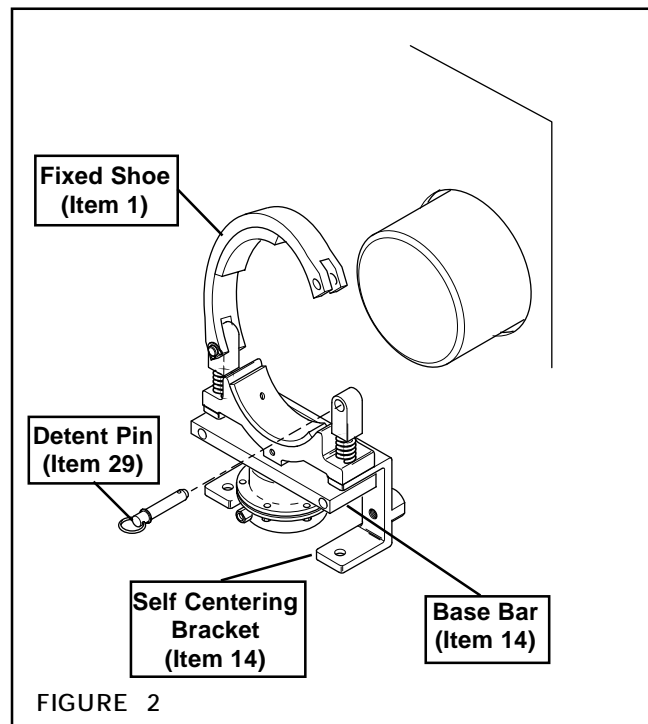

FIGURE 2
1. Pull the Detent Pin (Item 29) and lift the hinged Fixed Shoe (Item 1) to the open position (See Figure 2).
Allow sufficient clearance between the Friction Facings (Item 3) and the shaft to allow free rotation of the shaft (See Figure 2).
2. Position the Diaphragm Brake on the shaft with the Fixed Shoe (Item 1) riding on the shaft and the Self Centering Bracket (Item 14) mounted as low as possible (See Figure 2).
3. Secure the Self Centering Bracket (Item 14) (See Figure 2).